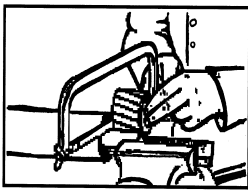

FIG 4.3
6. Saw off the drive tube. Note: the drive tube must 10 mm longer than the protection its. (Fig. 4.3)